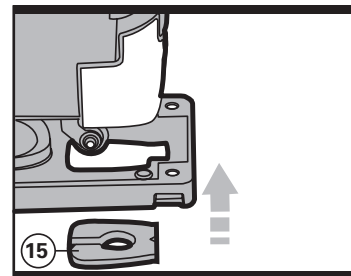

Fig 11
The splintering protector (15) prevents the splintering of the surface when sawing in wooden materials. Press the splintering protector from below into the base plate (See Fig 11).